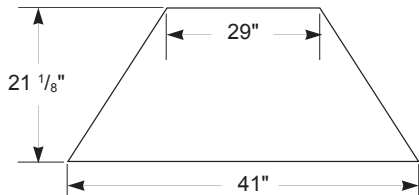

Figure 3 - Fireplace Bottom Dimensions
- If your fireplace is to be installed directly on carpeting, vinyl tile or any combustible material other than wood, it must be installed on a metal or wood panel extending the full width and depth of the fireplace. See Figure 3, page 5.